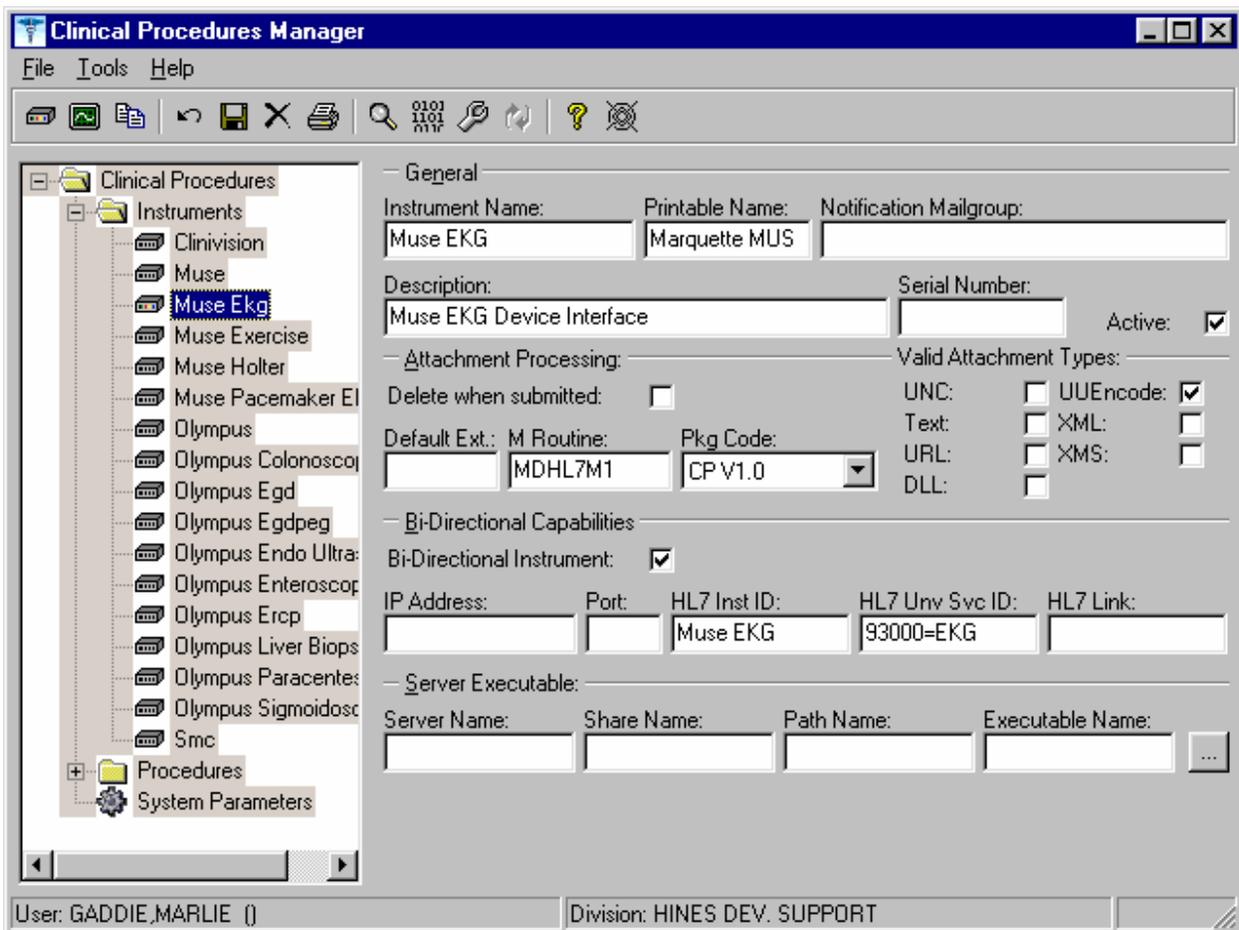

Fig. 6-4
3. Click **OK**. The Edit screen is displayed. Fig. 6-4 is the edit screen for automated instruments. The Automated Instrument Name that you just entered is displayed.